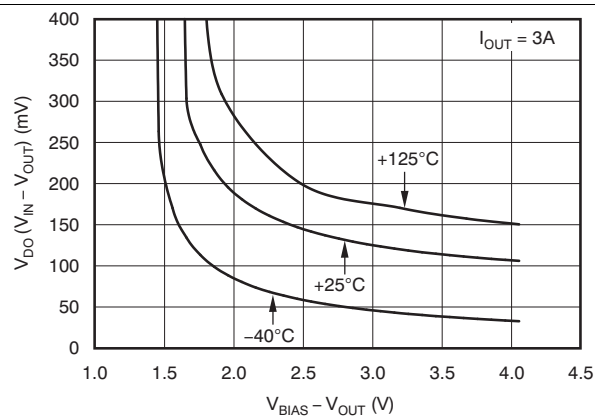
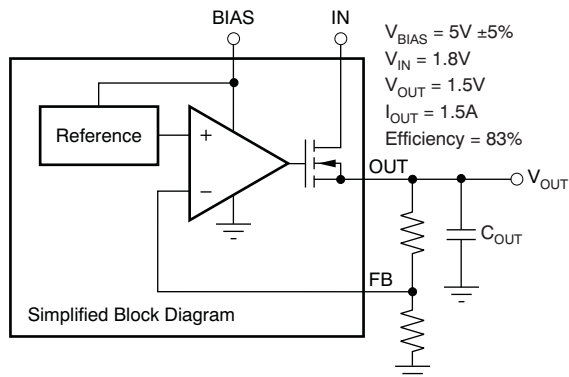

Figure 6. V_{IN} Dropout Voltage vs V_{BIAS} - V_{OUT} and Temperature (T_J)
Figure 23. Typical Application of the TPS74901 Using an Auxiliary Bias Rail
(1) Adjustable devices tested at 0.8 V; resistor tolerance is not considered.
(2) Dropout is defined as the voltage from V_{IN} to V_{OUT} when V_{OUT} is 3% below nominal.
(3) 3.25 V is a test condition of this device and can be adjusted by referring to Figure 6.
There are two different specifications for dropout voltage with the TPS74901. The first specification (see Figure 23) is referred to as $V_{\text{IN Dropout}}$ and is used when an external bias voltage is applied to achieve low dropout. This specification assumes that V_{BIAS} is at least 3.25 V above V_{OUT} , which is the case for V_{BIAS} when powered by a 5-V rail with 5% tolerance and with $V_{\text{OUT}} = 1.5 \text{ V}$ (3.25 V is a test condition of this device and can be adjusted by referring to Figure 6). If V_{BIAS} is higher than $V_{\text{OUT}} + 3.25 \text{ V}$, $V_{\text{IN dropout}}$ is less than specified.